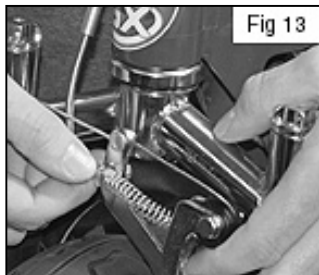

Fig 13
2. With one hand, depress the brake calliper using your thumb and forefinger. (Fig. 13)